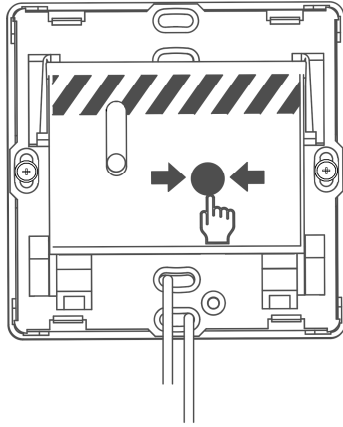
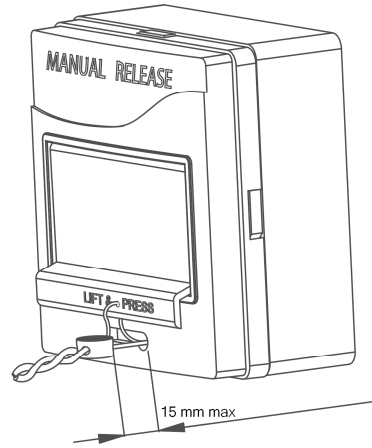

Figure 3
Figure 4
Attach the base (3) with two woodscrews (7) to the wall. Then remove the front cover (1) from the central frame (2) and thread the wire (8) through the two lower holes of the central frame. Next, connect the wires passed within the base to the terminal block on the rear side of the central frame and fasten the last one to the base with two woodscrews (6). The assembled unit appears as shown in Figure 3. Finally, put the front cover on the assembled unit threading the wire ends through the key hole of the first one. One of the wire ends should be passed through the hole in the transparent cover. Run the wire ends through the lead seal, twist the wire ends together placing the twist within the seal, and seal the UDP by special sealing pliers. After sealing, the seal should be located not far than 15 mm from the cover as shown in Figure 4 to avoid unauthorized actuation of the UDP without breaking the wire. Do not use wires other than copper wire of 0.25 mm in diameter.